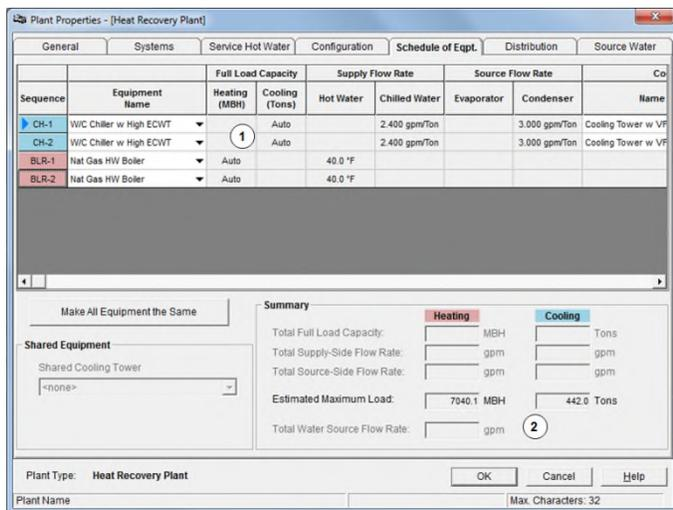

Figure 10.
The Schedule of Equipment Tab (Figure 10) is used to select the individual chillers and boilers used in the plant:
- The **Equipment Table** (see 1 in figure) contains one row for each chiller or boiler in the plant. In the example in Figure 10 there are two chillers, color coded as blue, and designated as CH-1 and CH-2. There are also two boilers, color coded as red, and designated as BLR-1 and BLR-2. If you’ve previously defined the chiller and boiler equipment (as in Step 3 above), these items will appear on the drop-down list and can be selected. If the equipment has not yet been defined, you can select the “create new chiller” or “create new boiler” option in the list to create and link the equipment.
- The remaining items on this tab (2) are display only and provide reference information about equipment flow rates and capacities (if available).